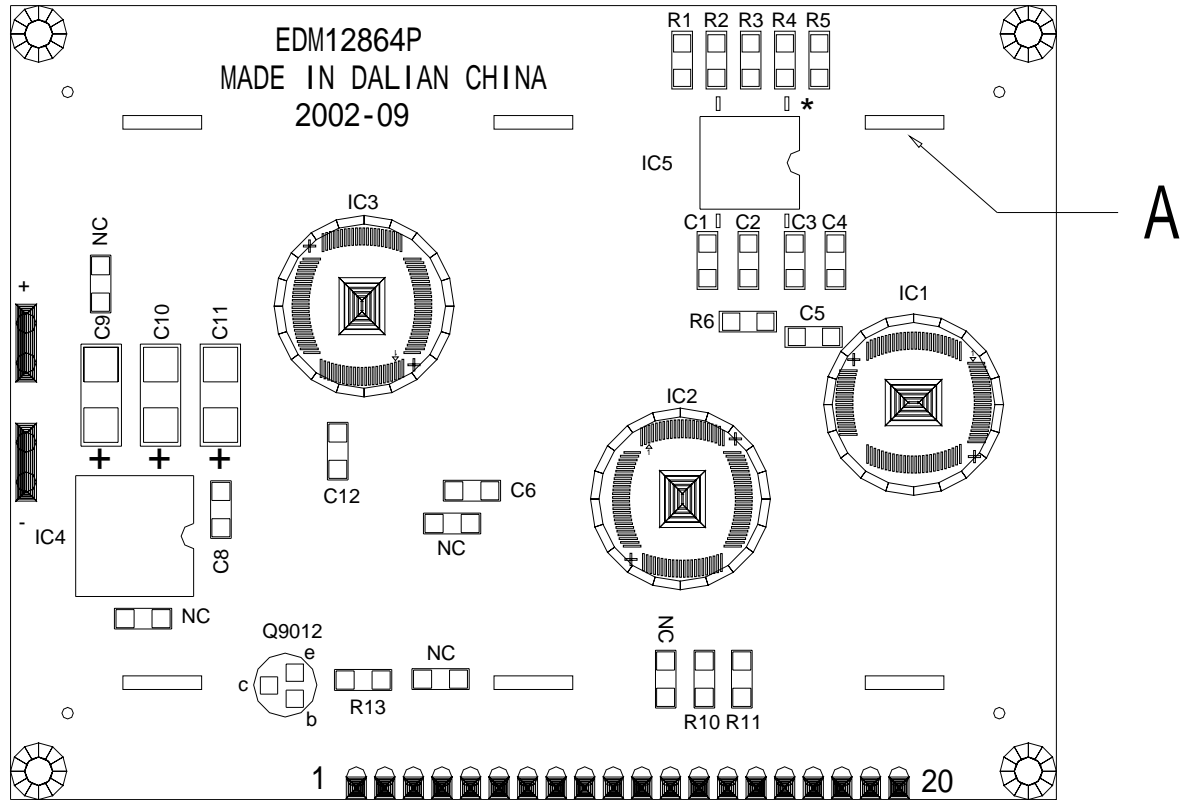

Figure 1-1
2. PCB Silk drawing: (Figure 1-1)